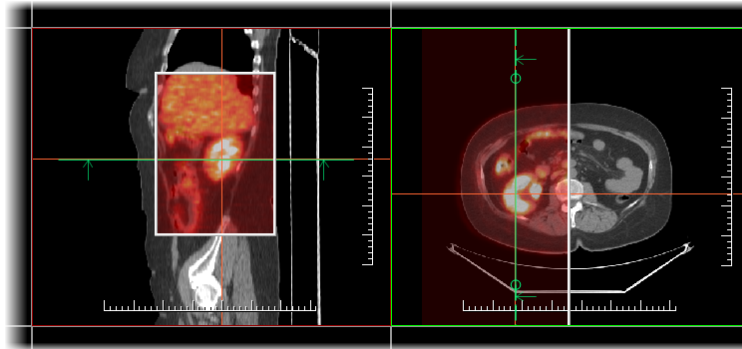

Figure 307 – Fusion images between CT and PET series
- Vertical** - the view is divided with a vertical line; the image from the fusion series is displayed on the right (see Figure 307, right).
- Rectangle** - the image from the overlaying series is displayed inside the rectangle (see Figure 307, left).